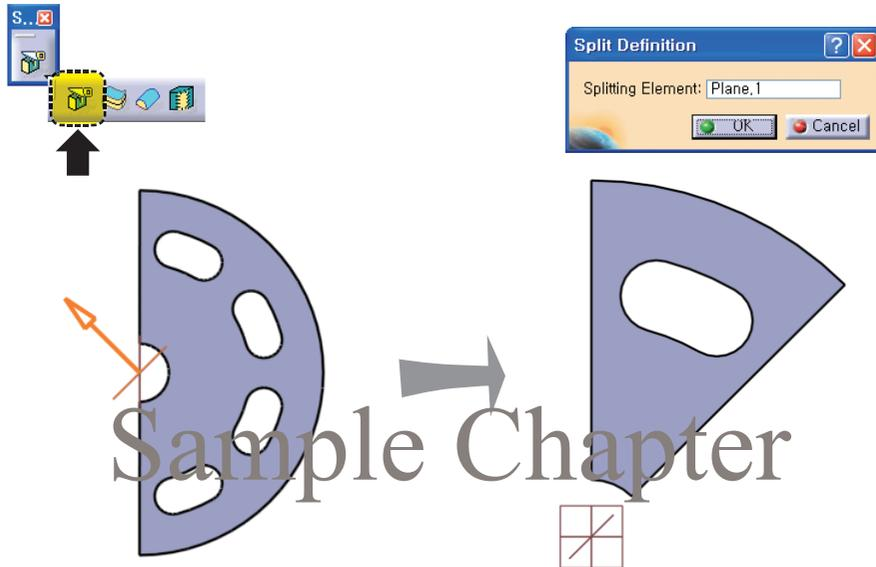

Fig 8-6 Creating 1/8 Model
2. Split the part body with the 45 deg inclined plane as shown in Fig 8-6.